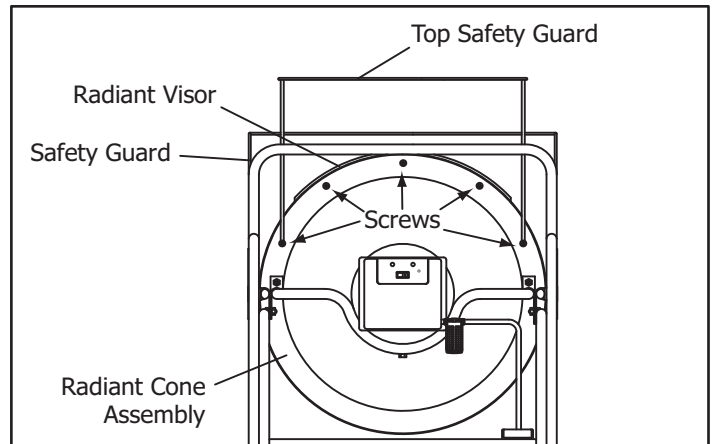

Figure 4d.
4. Attach Radiant Visor to the top rear of the Radiant Cone Assembly using 3 included screws. Attach Top Safety Guard to the rear of the Radiant Cone Assembly using 2 included screws (see Figure 4d).